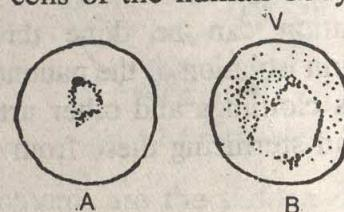

Fig. 8.6 Plasmodium causes Malaria.
(1) **Malaria.** This is again caused by a protozoan called Plasmodium (Fig. 8.6) which lives as a parasite within the red blood cells of the human body.